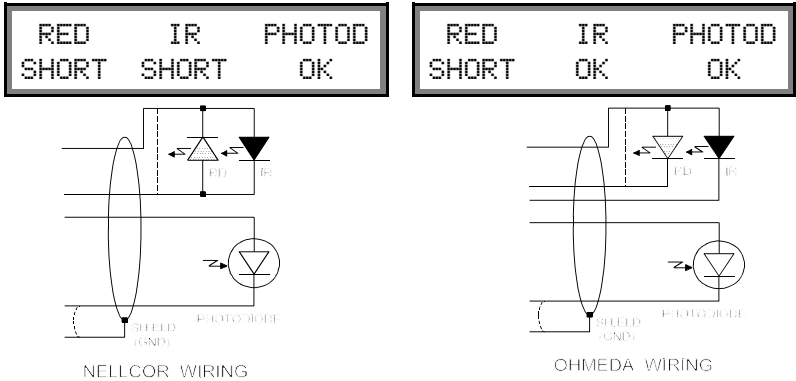
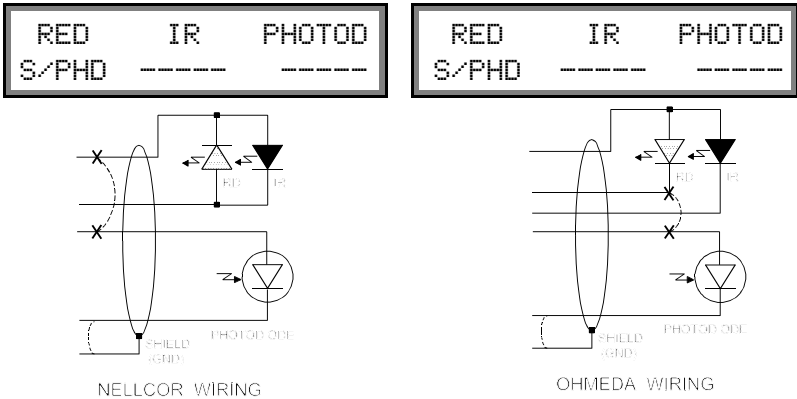

Figure 3 - Red LED Shorted.
Figure 6 - Red LED Shorted to photodiode anode.
7. Illustrations of electrical fault conditions for sensors incorporating the "Nellcor[®] wiring" configuration, and for sensors incorporating the "Ohmeda wiring" configuration, are shown with the corresponding MODE 1 displays in **Figure 3** through **Figure 6**.